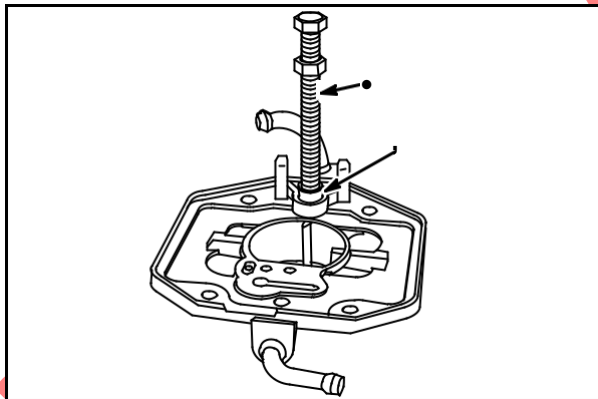

Fig. 104
Use self-threading screw **#93029** (1) from Fly-wheel Puller **#19165**. Thread screw into seat body (2) **3 - 4 turns**, **Fig. 104**.